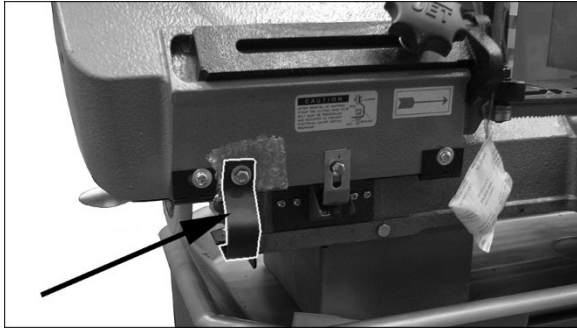

Figure 6-4: shipping bracket removal
3. Remove shipping bracket (Figure 6-4). Then reinstall bottom hex nut beneath plate. Retain shipping bracket in case machine must be transported in future.